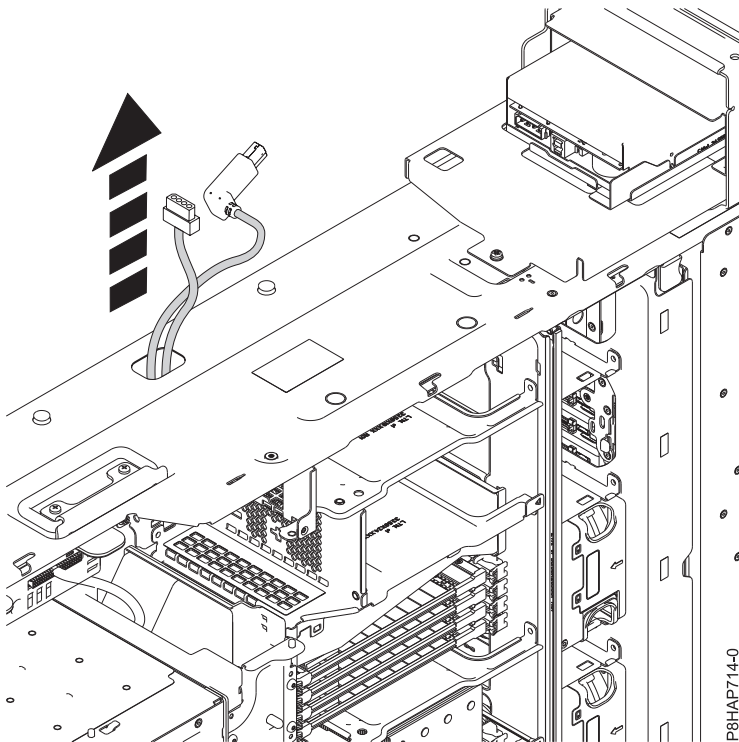

Figure 69. Routing the internal RDX docking station (FC EUA3) USB and power supply cables
4. Route the internal RDX docking station (FC EUA3) USB and power supply cables up through the side of the chassis cable management hole as shown in Figure 69.